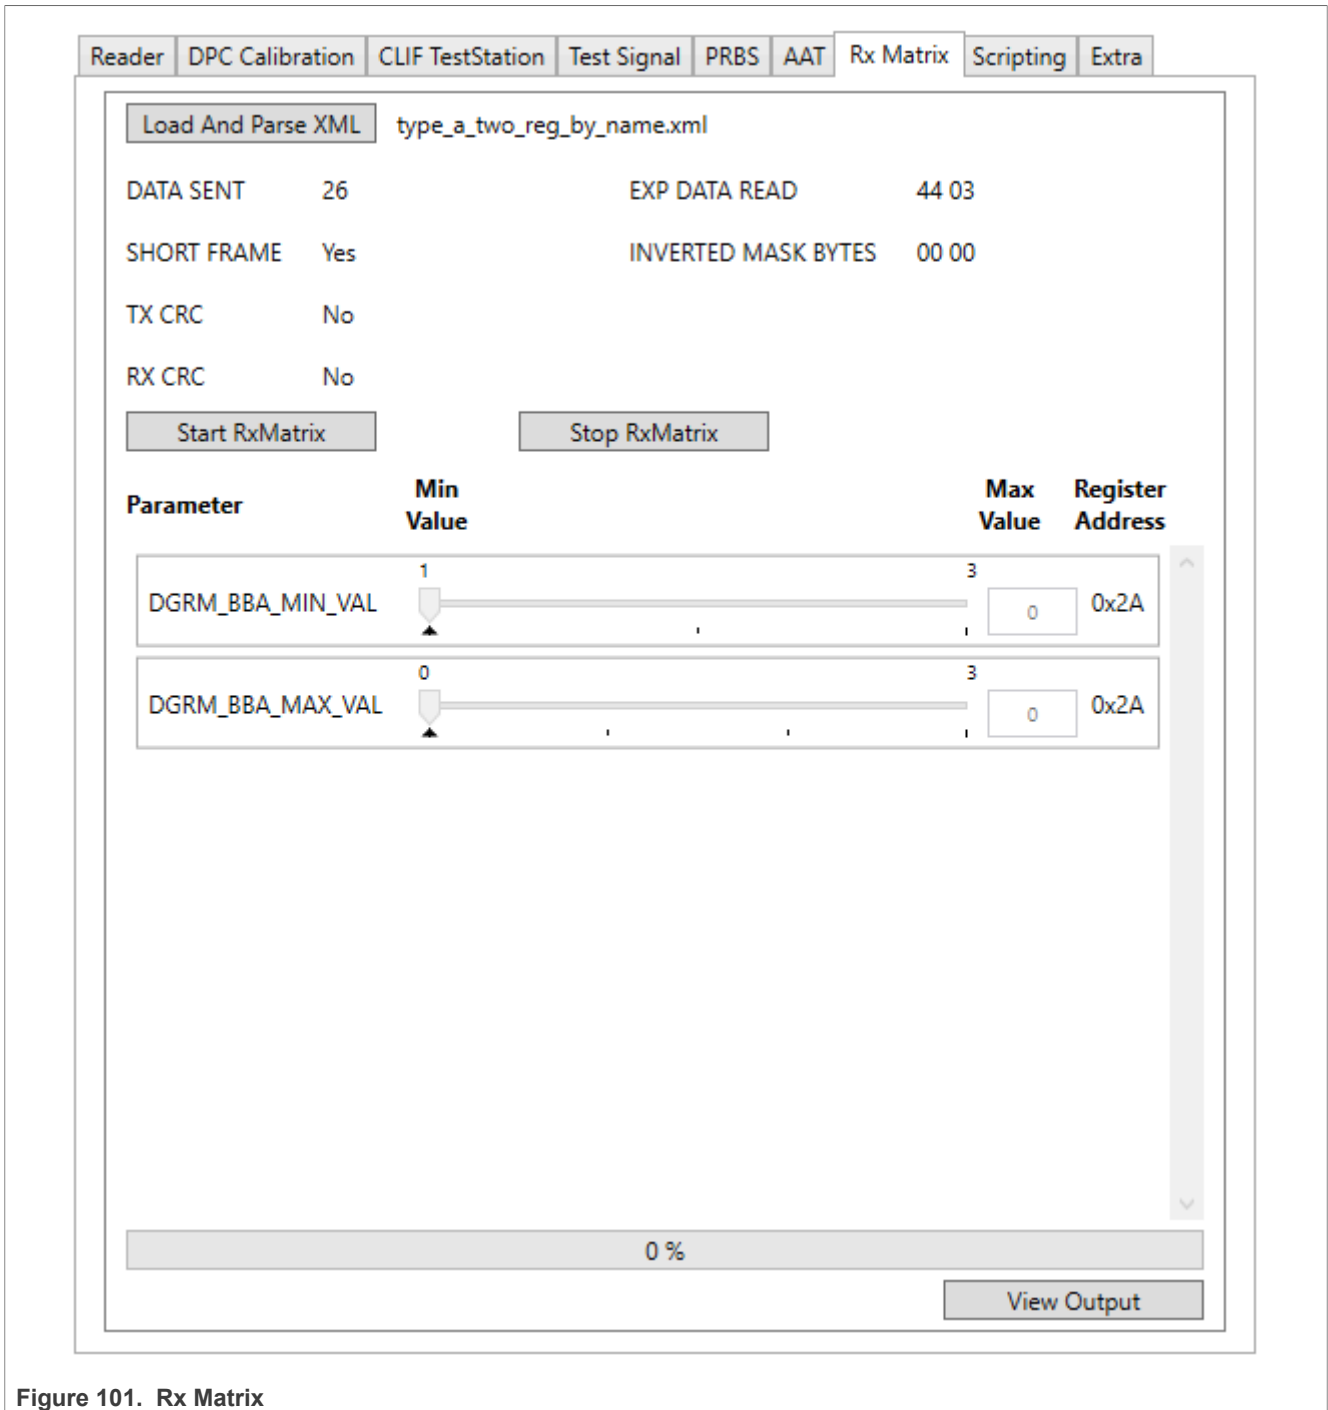

Figure 101. Rx Matrix
1. Press Load And Parse XML in Figure 101